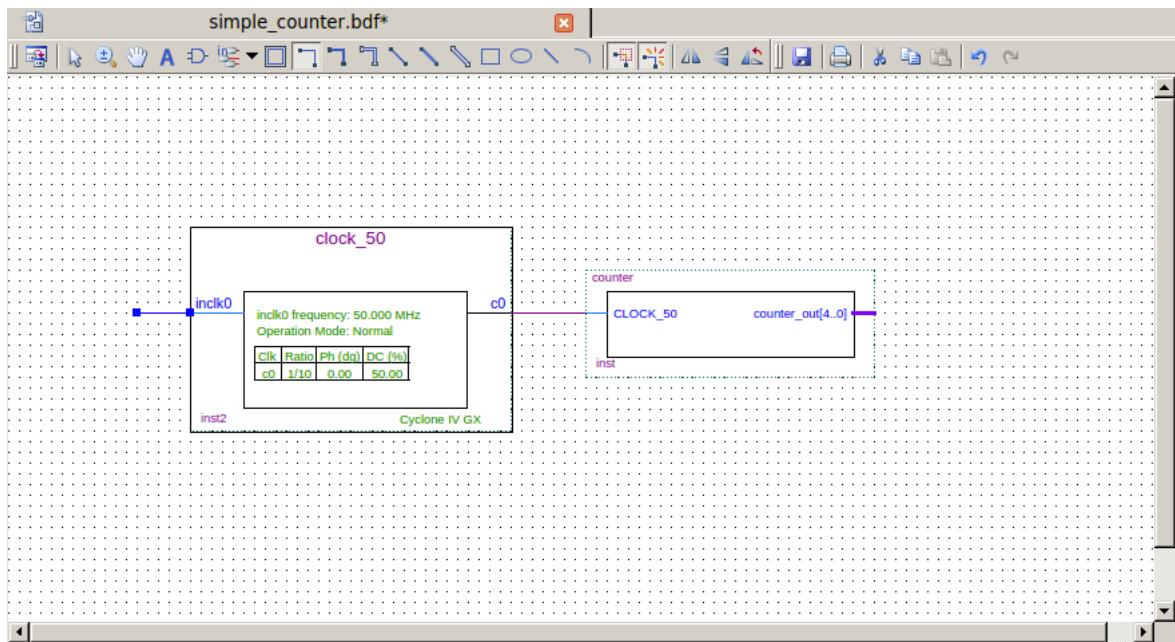

fig3.1.13
31. Move the mouse so that the cursor (also called the selection tool) is over the pll symbol's c0 output pin. The orthogonal node tool (cross-hair) icon appears. Click and drag a bus line from the c0 output to the counter clock input. This action ties the pll output to the counter input. Next add bus line using orthogonal node tool to pll inclk0. See fig 3.1.13